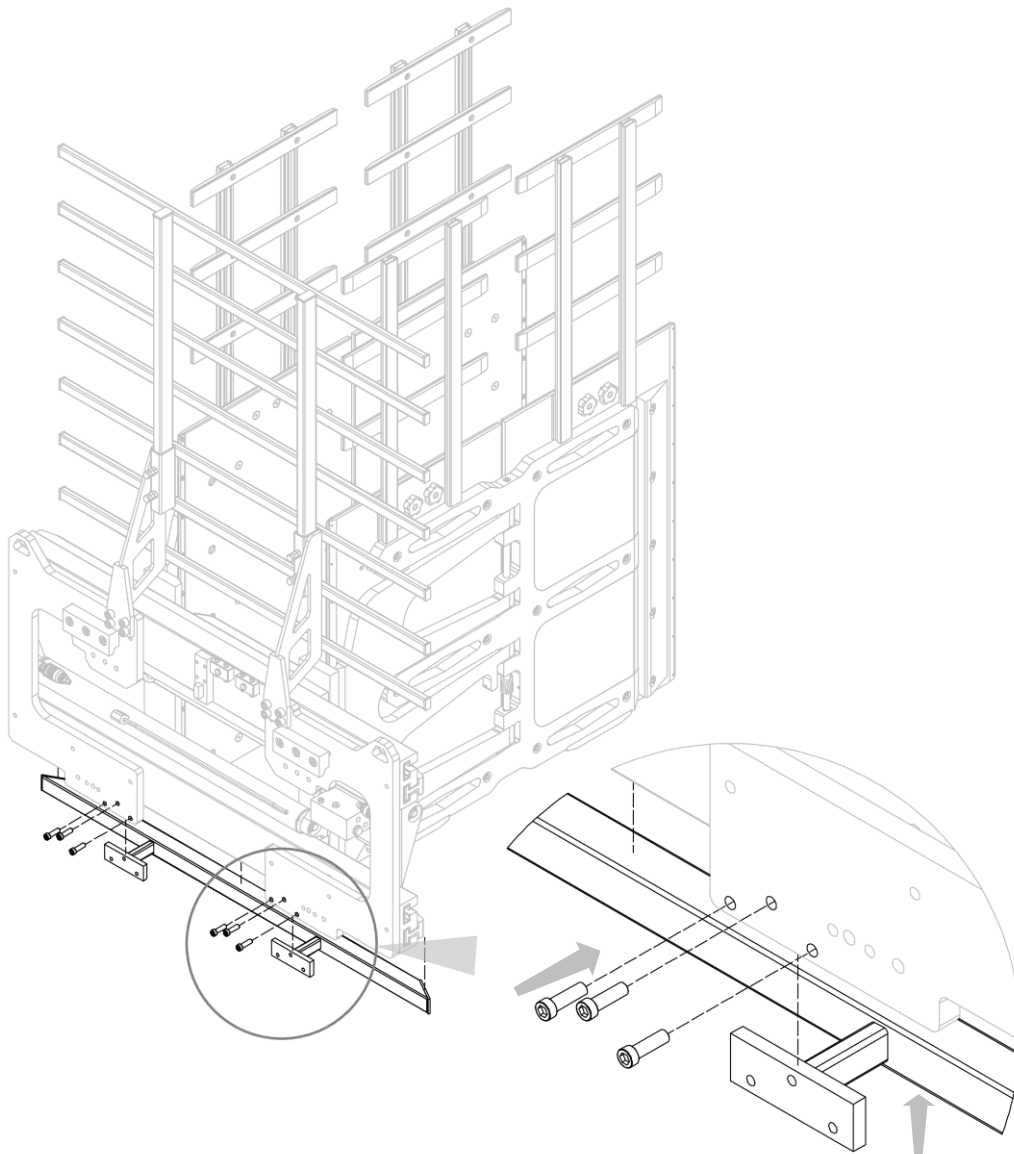

Figure 62
3. Remove the lower load-retaining frame after removing the screws (see *Figure 62*).